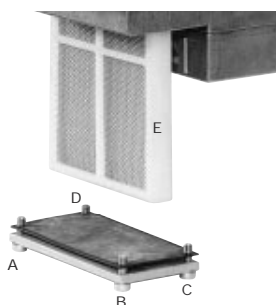

Fig. 31
- 2 Remove screws 1 ÷ 6 (Fig. 31).